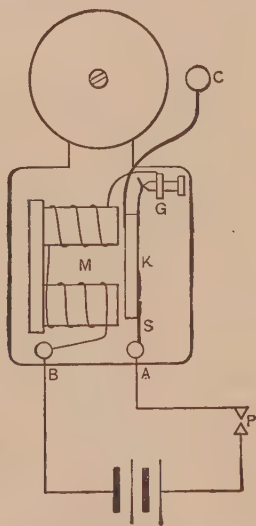

FIG. 187. Vibrating-stroke bell. Circuit-breaking type.
**110. Vibrating Stroke. Circuit-breaking Type.** The same form of bell with vibrating stroke is shown in Fig. 187.